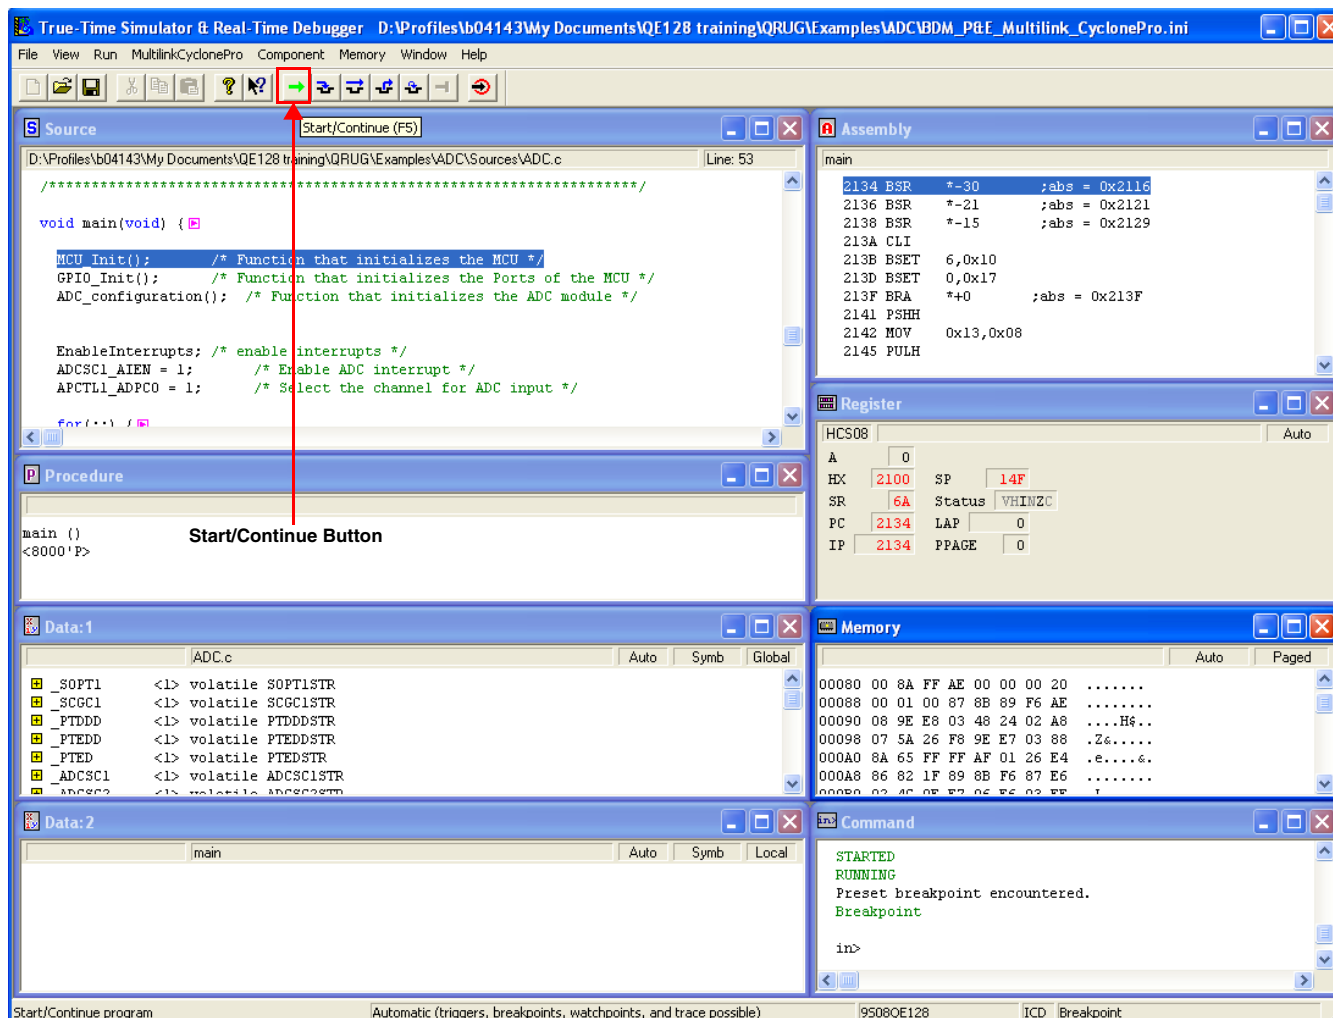

Figure 3-5. Run/Continue Icon
13. Click on the run button as shown in Figure 3-5. This figure shows the true-time simulator window or debugger window. This makes the MCU start to execute the project.